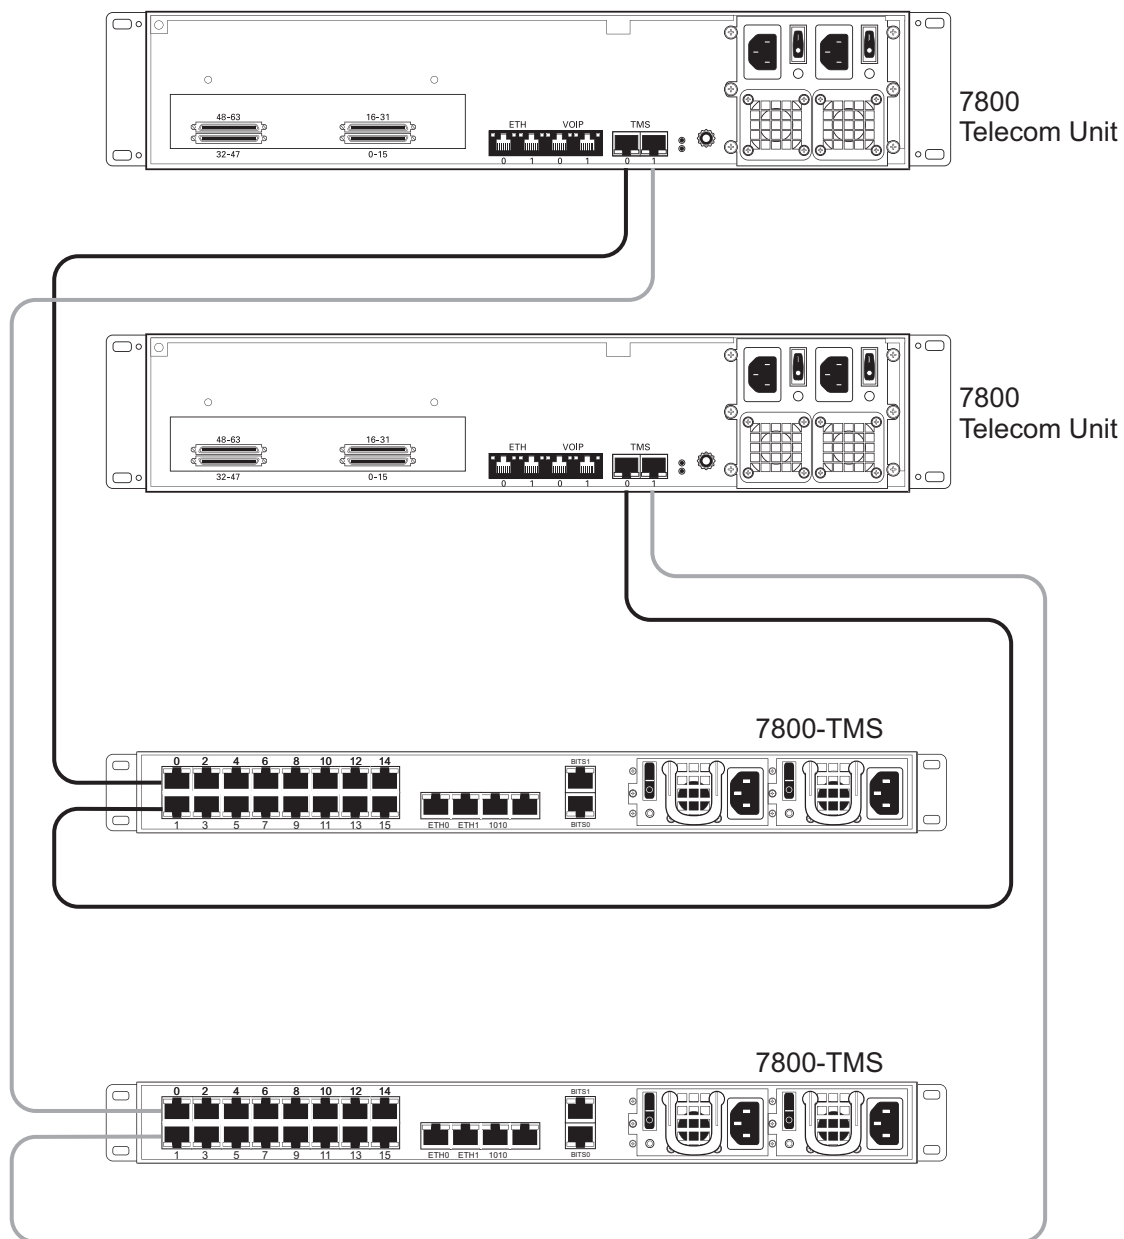

Figure 2.27 Interconnecting Two 7800 Telecom Units to an active and standby 7800-TMS
1. Start with the 7800 Telecom Unit at the topmost position of the equipment rack and connect a CAT7 shielded Ethernet crossover cable to the TMS0 connector at the rear of the 7800 Telecom Unit, figure 2.27 on page 37. Connect the other end of the same CAT7 cable to the first port of the first 7800-TMS.
2. If your system employs a second 7800-TMS, connect a second CAT7 shielded Ethernet crossover cable to TMS1 at the rear of the TMG7800 Telecom Unit, figure 2.27 on page 37. Connect the other end of the same CAT7 cable to the first port of a second 7800-TMS.